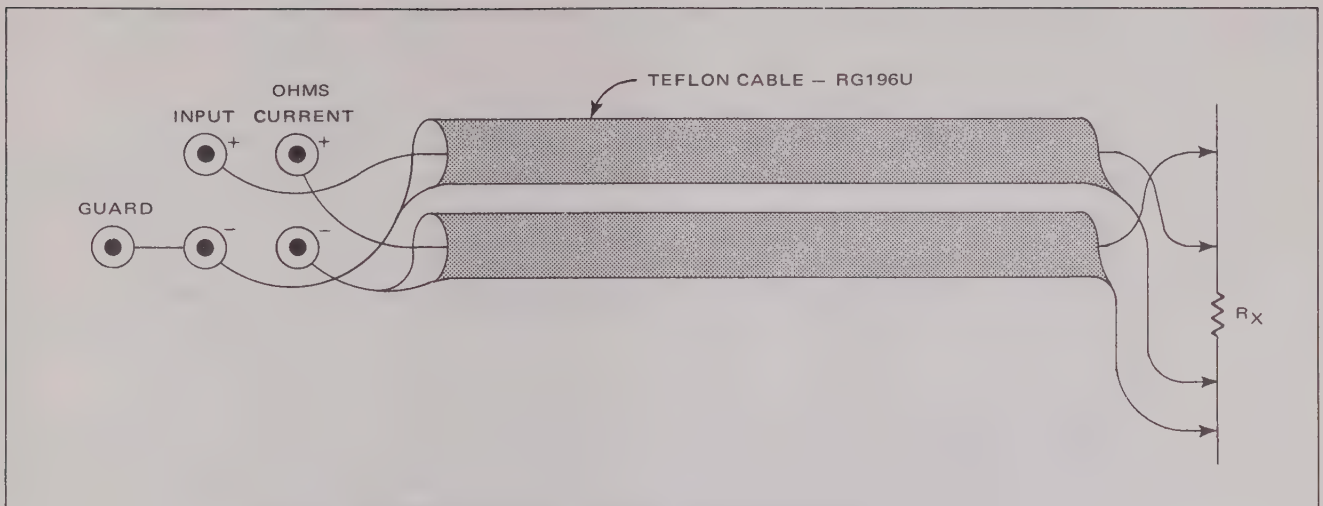

Figure 2.6 - Four-Wire Ohms Measurement
2.31 Figure 2.6 shows a basic shielded four-wire ohms measurement configuration. This method uses two single-conductor shielded teflon cables. The conductors carry the positive sides of the INPUT and CURRENT lines while each shield carries the low side.